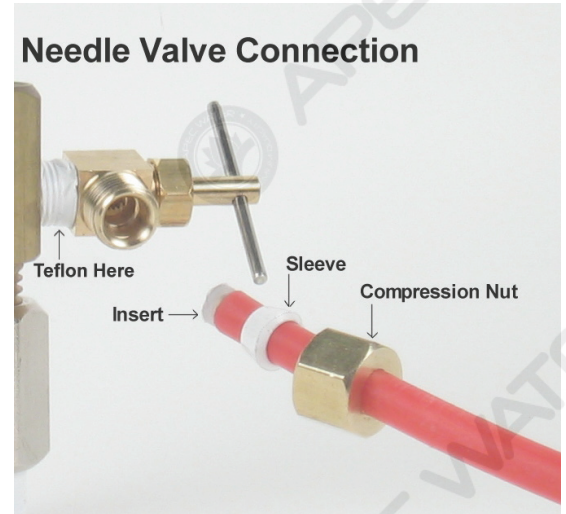

Fig. 5D
4. **Needle Valve:** See Fig. 5D. Screw the Needle Valve onto the Adaptor tightly. Apply 6-8 rounds of Teflon tape onto Needle Valve before attaching it to the Adaptor.